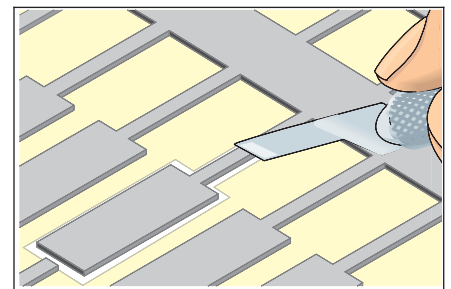

Figure 4 Cut out the new surface mount pad.
10. Cut out and trim the new pad. Cut out from the plated side. Cut the length to provide the maximum allowable overlap. Minimum 2 times the circuit width. (See Figure 4.)